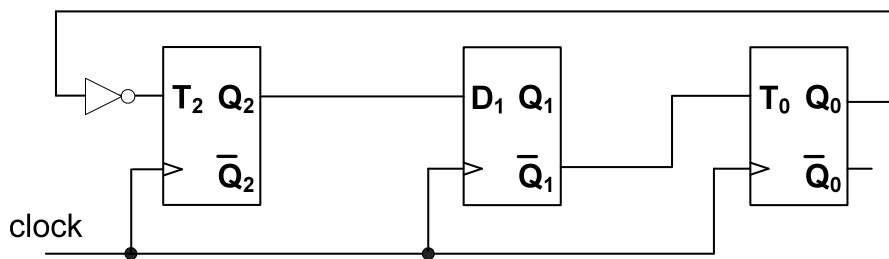

Figure 9 - Circuit for question 14 (it is assumed that after power up the state is 000).
14. The periodic sequence $Q_2Q_1Q_0$ generated by the circuit shown in Figure 9 is: